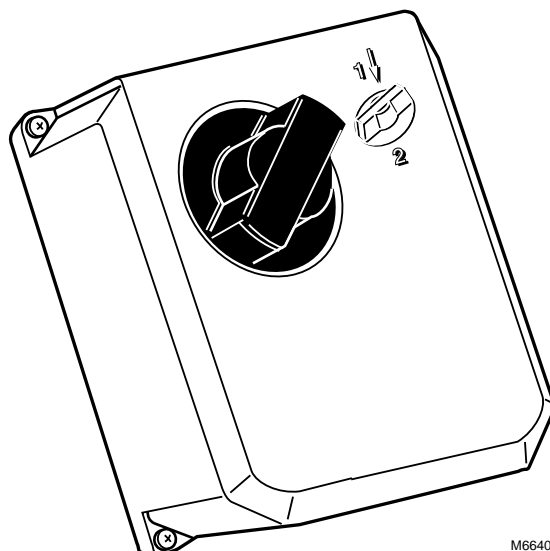

Fig. 10. ML7421A,B manual operator knob.
- 3 When wiring and checkout are complete, replace the cover, tighten the cover screws, and replace the manual operator knob, Fig. 10.
The ML7421 is equipped with a manual operator knob (see Fig. 10) to open or close the valve in the event of power failure. Turn off or disconnect the power supply before manually operating the ML7421.